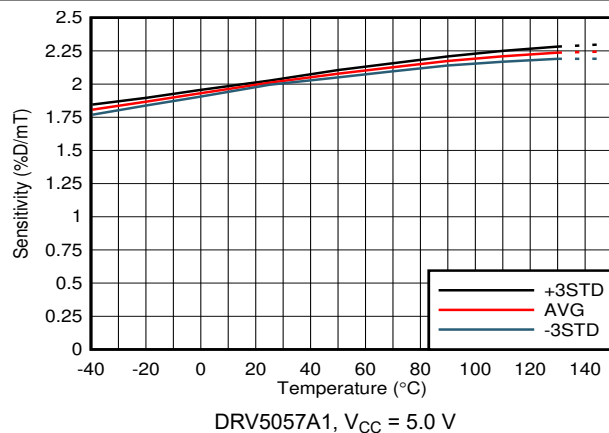

图 6-7. Sensitivity vs Temperature
(1) B is the applied magnetic flux density.
(2) See the § 7.3.2 section.
(3) B_L describes the minimum linear sensing range at 25°C taking into account the maximum V_Q and sensitivity tolerances.
(4) S_{TC} describes the rate the device increases Sensitivity with temperature. For more information, see the § 7.3.4 section and 图 6-7 to 图 6-20.
(5) Product Preview data only for DRV5055Z1 - DRV5055Z4 device options.